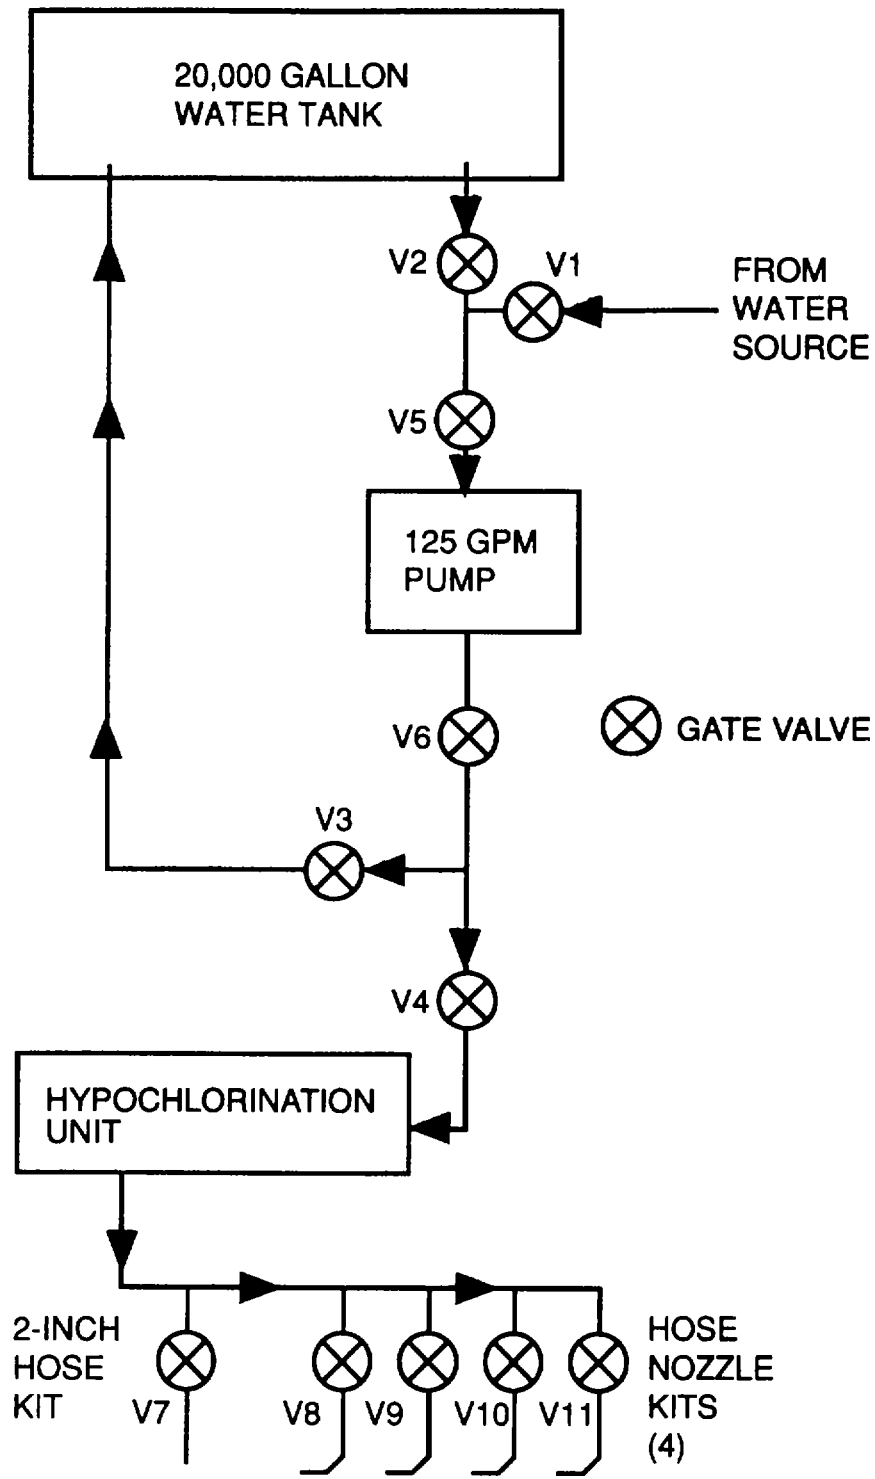

Figure 2-9. Water System Control Valves
- b. Water System Diagram. Refer to Figure 2-9. Water flow to and from the collapsible fabric tank is controlled by gate valves identified by the prefix "V." By opening or closing the respective gate valves, the tank may be filled or discharged.
- c. Startup. Refer to Figure 2-9.
Discharge Mode. Refer to Figure 2-9.
- (9) To dispense water through 2-inch hose connection kit, proceed as follows:
- (10) To dispense water through hose nozzle connection kits, proceed as follows:
- (11) When discharge mode is complete, shut down the 125 gpm pump (refer to the applicable TM).
d. Shutdown. Refer to Figure 2-9.
- (1) Shut down 125 gpm pump. Refer to the applicable TM.
- (2) Close gate valves V1 through V11 (if open).
- (3) Shut down hypochlorination unit. Refer to the applicable TM.